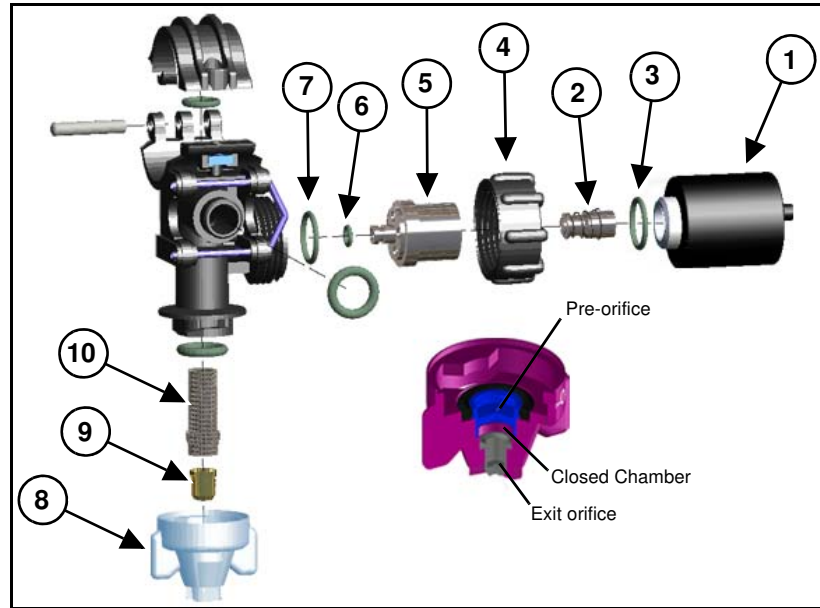

Figure 53
[Figure 53] - Rotate the coil (1) counter-clockwise to remove from the valve body (5). Remove the plunger (2) from the coil. Inspect the O-ring (3) on the coil and inspect the O-rings (6) and (7) on the valve body.
[Figure 53] - Remove the tip-cap (8), pre-orifice (9), and strainer (10).